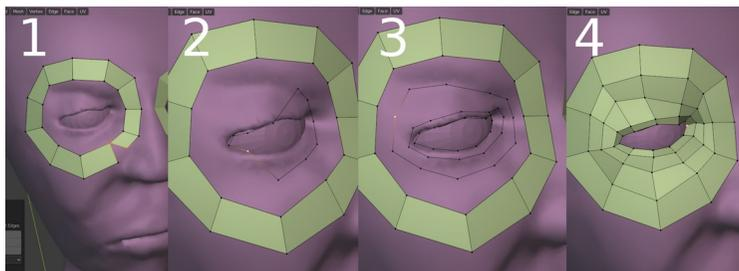

Figure 7-9 Extruding edges and bridging edge loops
8. Observe how the snapping onto a surface works by moving each of the vertices of the new plane a small amount. Select one of the side edges and extrude it then rotate it and repeat a few times to form part of a ring of quads going around the eye. Figure 7-9 stage 1 shows the ring complete but needing the last vertex to be dragged so it snaps onto the corner of the starting plane.
10. Move each vertex of the new ring to lie at the junction of eyeball and the inside of the eyelids as in Figure 7-9 stage 2.
11. Repeat the process for the ridge on the edge of the eyelid and for the crease above and below the eyelid as in Figure 7-9 stage 3